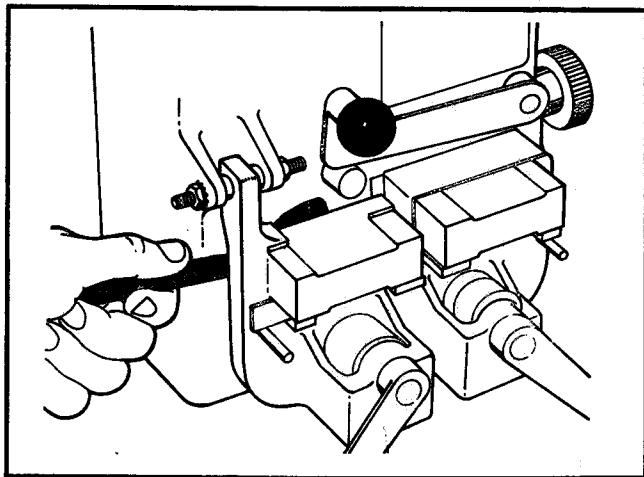

FIG. 19. ADJUSTING JAW ELEVATION.
- (1) **Elevation.** Place a straight edge against under side of the upper inserts. Then adjust elevation with the eccentric behind stationary jaw. A supplied spanner wrench is used for this purpose. See Fig. 19.